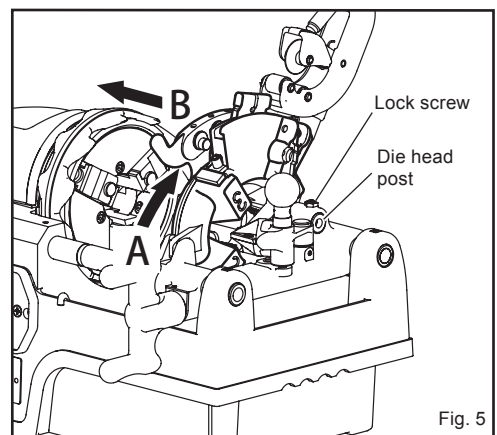

Fig. 5
4. Attaching and removing the die head (Fig. 5)
- (1) Attach the die head that matches the size of pipe to be threaded. (Fig. 5)
- (2) Align the die head post with the carriage fitting hole, and push it until it contacts the carriage while moving the die head up and down a little.
- (3) Lower the die head and check it is positioned correctly.